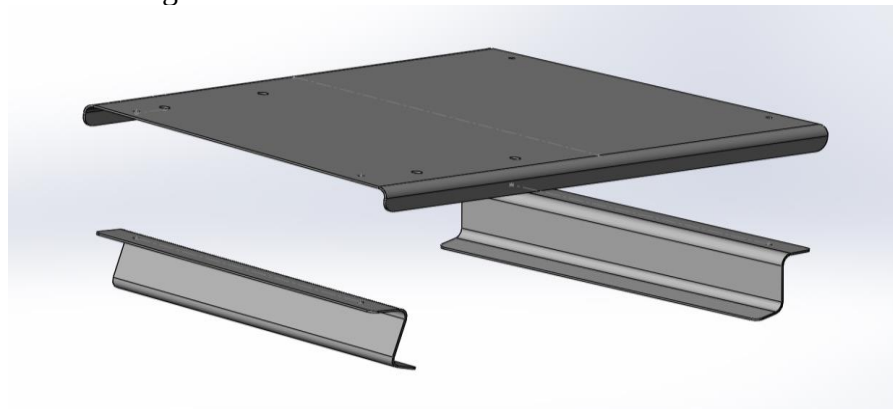

FIGURE 3-3 PITCH SERVO TRAY ASSEMBLY
3. The ZEE Angles should be positioned as shown in Figure 3-3, 3-4, & 3-5.